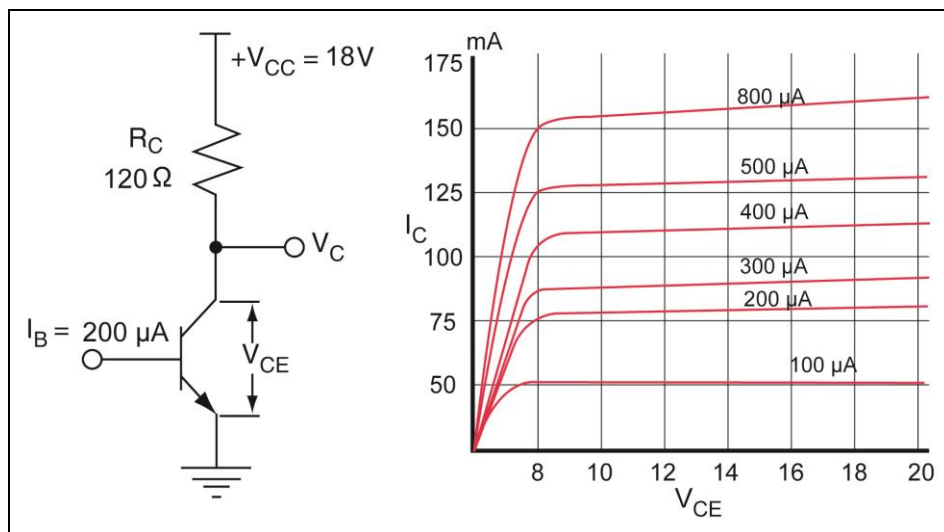

Fig. 3.3-15 Typical Characteristic of Transistor 2N2222A
10. For the 2N2222A bipolar transistor data sheet characteristic of Fig. 3.3-15, find collector current I_C and V_{CE} if the transistor base current I_B is assumed to be $200\mu A$, when the supply voltage V_{CC} is 18V.